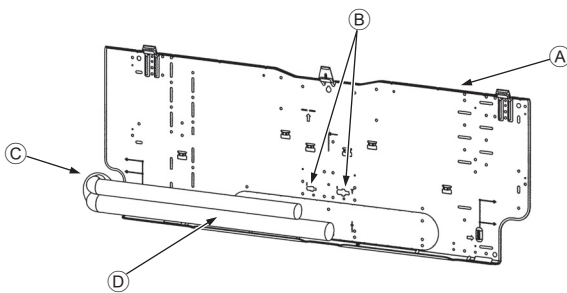

Fig. 3-5
- ▲ Fixing screws (4 × 25) ②
- ▲ Mount board ①
3.3. When embedding pipes into the wall (Fig. 3-5)